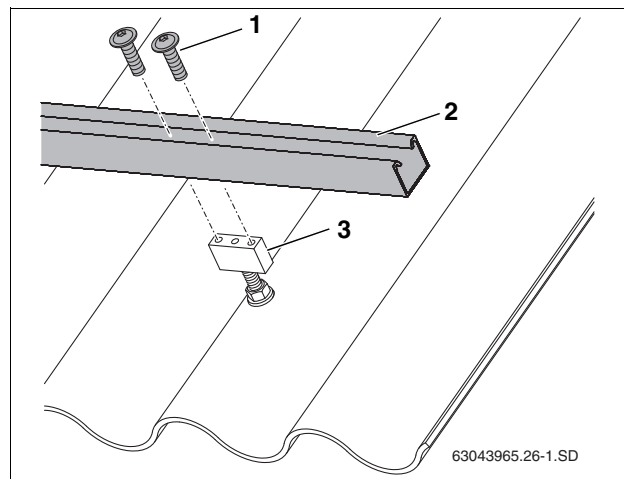

Fig. 22 Attaching the horizontal rail to the attachment blocks on the hanger bolts.
- ▶ Fasten each rail (Fig. 22, [2]) with two screws (Fig. 22, [1]).